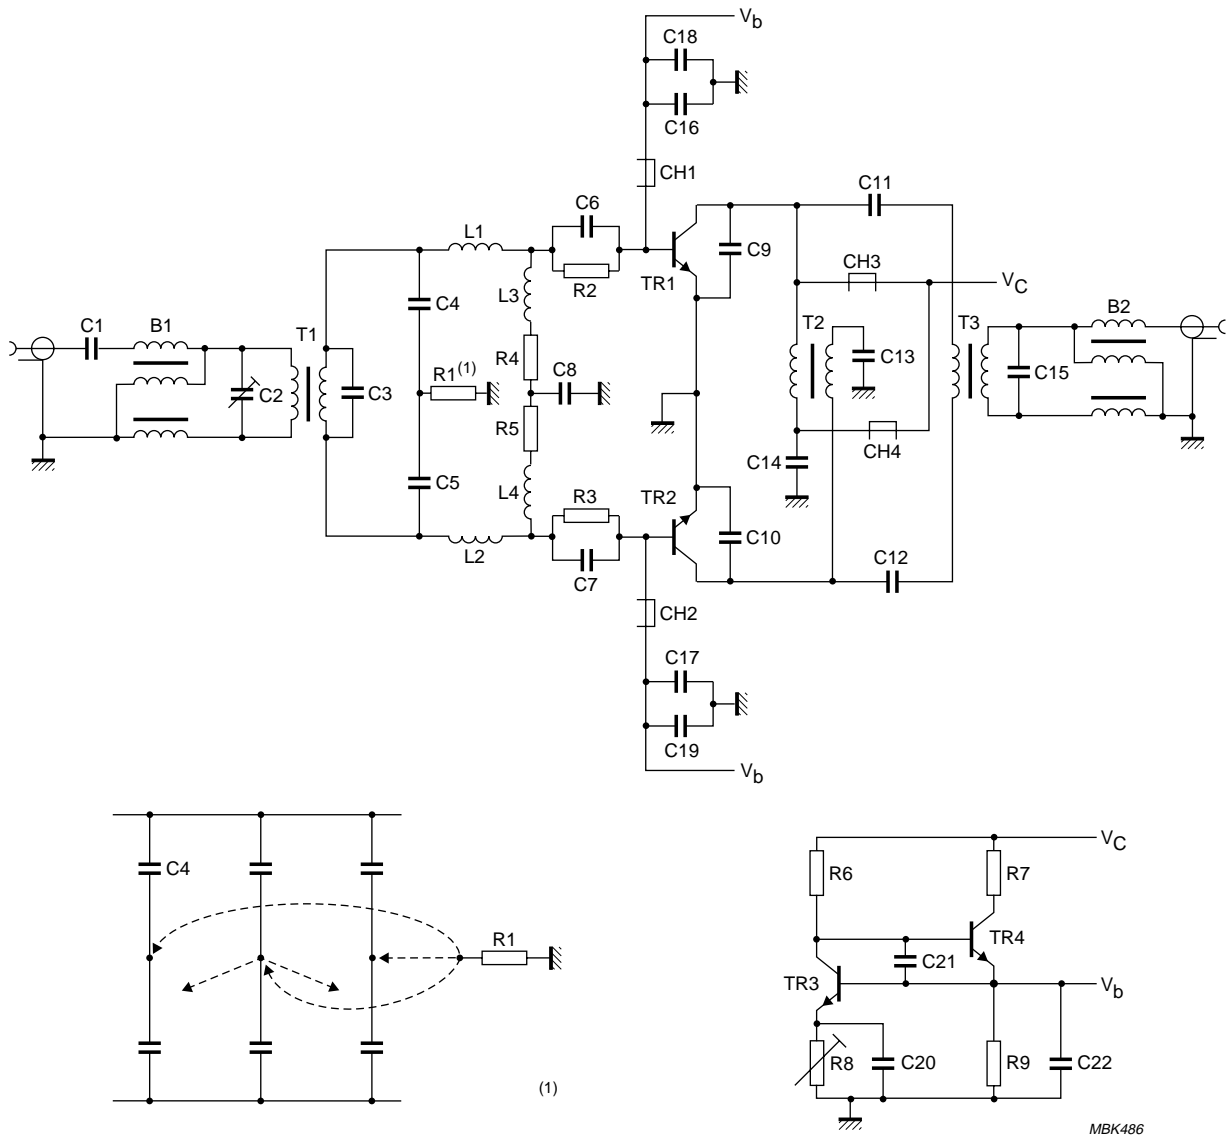

Fig.1 Circuit diagram of BLW96 power amplifier for 1.6 – 30 MHz, 400 W PEP, see Table 2 for parts list.
Figure 1 shows the circuit diagram; Fig.2a shows the circuit board layout, and Figs 2b and 3 show the component lay-out.
It is preferable in realising  $C_4$  and  $C_5$ , to employ three capacitors of 470, 470 and 390 pF in parallel for both, leaving the centre connection such that alternative connections of  $R_1$  can be selected, as shown in Fig.1. This technique allows the best compromise to be found for the intermodulation distortion peaks which typically occur between 14 and 20 MHz, and which can be undesirably high at spot frequencies. A separate, temperature compensated, bias control circuit is necessary to give adjustable constant class-AB bias condition in the BLW96 transistors. The bias circuit diagram is shown in Fig.1.
**Table 2** Parts list for Fig.1